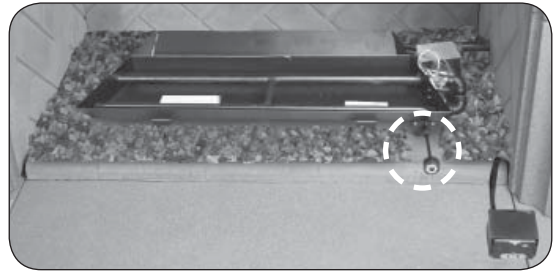

Fig. 12-1 Place lava media (if option purchased)
1. Spread the lava granules on the floor of the fireplace, around the front and sides of the burner system (see Fig. 12-1).